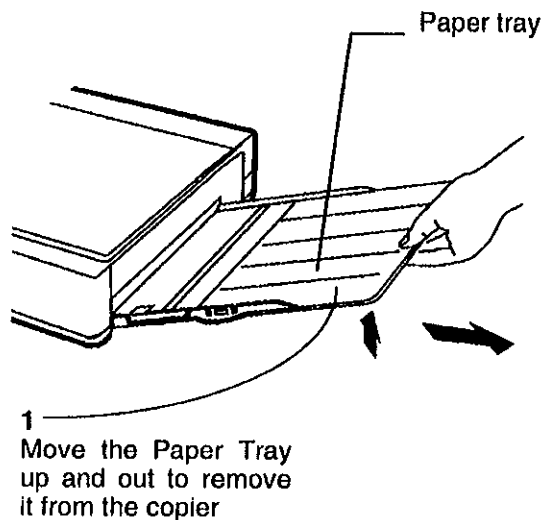

Figure 4. Removing the Paper Tray
- 1 (Figure 4) Remove the Paper Tray